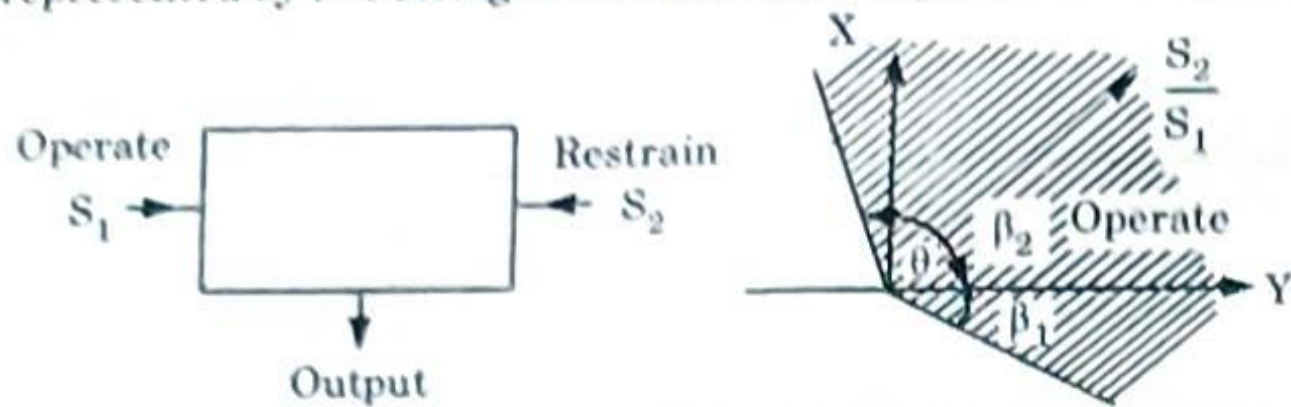

Fig. 2.12.1. Phase comparator output when angle θ between S_1 and S_2 is within limits β_1 and β_2 .
2. Both inputs must exist for an output to occur; ideally, operation is independent of their magnitudes, and is dependent only on their phase relationship. Fig. 2.12.1 illustrates the phase comparator in its simple form.